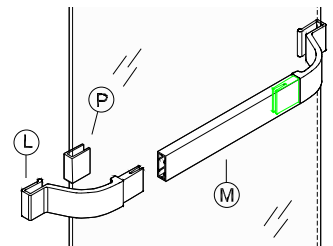

figure 7
8. Attach Hanger brackets as shown in exploded view - sheet 1. Begin by draping a Bracket Vinyl (d5) over the edge of the Glass Panel. Using three(3) Bracket Screws (d2), loosely assemble the two piece hanger bracket and positioned it over the Vinyl. Positions the Hanger Bracket an inch from vertical edge of glass and tighten down the screws (allen wrench required). Next install the roller as shown and tighten down on screw. Repeat step for the remaining Hanger Brackets.
9. Install the Towel Bar (M) on the outside panel as shown in the exploded view - sheet 1 (note that the Towel Bar is on the same side as the Nylon Rollers) . Begin by wrapping Vinyl (P) over glass edge as shown in figure 7. Use a block of wood or a rubber mallet to tap Towel Bar Brackets (L) over Vinyl (P) until seated. Position Towel Bar (M) as shown and secure with four(4) 638 Screws (N).